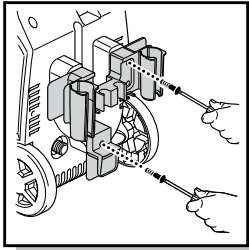
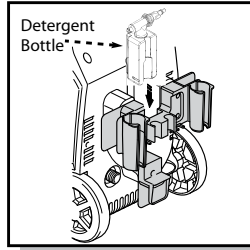

Fig. 1
Fig. 2
- Install the accessory holder on the back of your **BLUE CLEAN POWER WASHER** (Fig. 1). You’ll notice where the accessory holder meets the back of the unit. You will see several male index posts which fit into female holes. The posts and holes enable easy placement of the accessory holder and easy tightening of the screws. Place the screws in the holes provided on the accessory holder and screw them in. Do not use a power screwdriver. When the screw is completely tight, give a small final clockwise twist of the screwdriver. Do not over tighten. After the accessory holder is installed you will notice a square area in the center of the holder where the square detergent bottle may be stored and easily retrieved (Fig. 2).
- Using one of the supplied screws, install the small electric power cord holder below the accessory holder so that the “L” - shaped holder faces downward. The electric power cord can now be wrapped around the accessory holder and the bottom “L” - shaped holder while your power washer is not in use (Fig. 1).